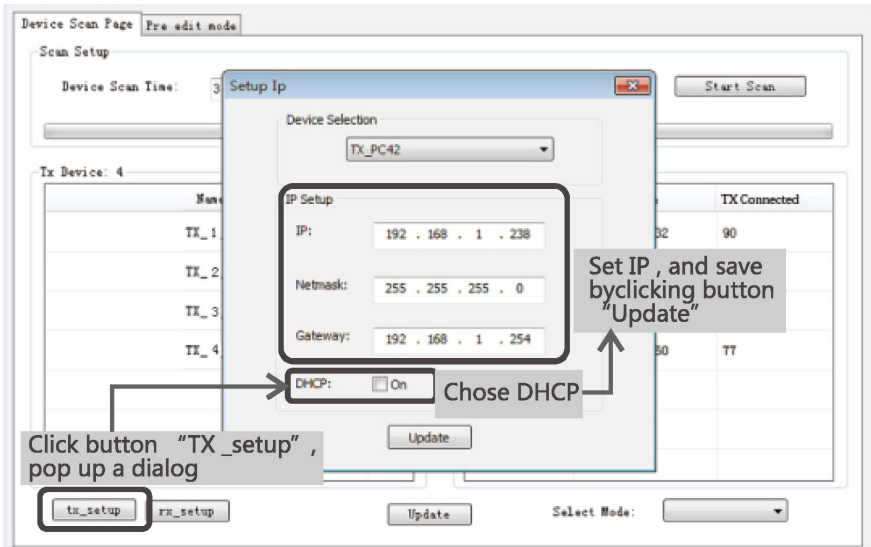

Figure 2
- If IP setting is really needed, please follow up the operation as Figure 2 (example of TX's IP setting shown, RX 's setting is the same as TX's)